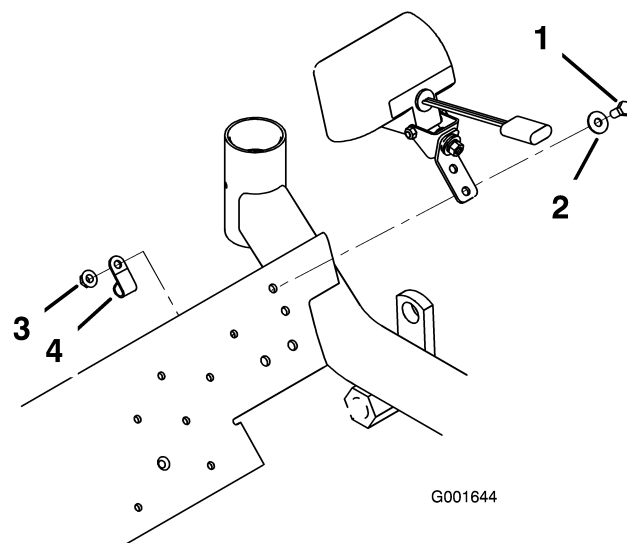

Figure 11
1. Install the 2 front lamps (with brackets) onto the front of the footrest with 2 bolts (5/16 x 3/4 inch), curved washers, nuts (5/16 inch), and harness clips (Figure 11).
Note: Before installing the nut on each of the bolts, slip the harness clips onto the light kit wire harness and install each of the clips on a bolt between the backside of the footrest and the hex nut (Figure 11).